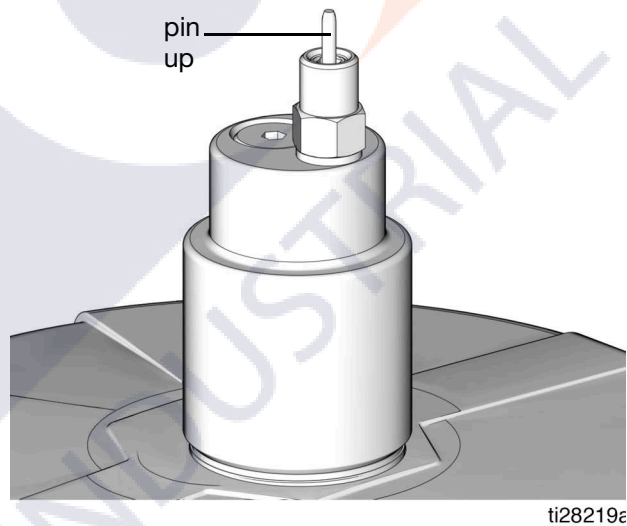

FIG. 19
2. Connect Supply Hose (J) at Quick Connect (V).
3. Turn on remote filling station pump (F) and fill the G3 reservoir (D) until the indicator pin on the Auto-Fill Valve pushes up as shown in FIG. 19. The pressure in the refill pump (F) builds and the pump stalls.